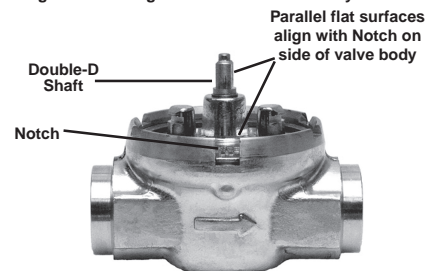

Fig. 4 - Shaft Position
1. *Align the parallel flat surfaces in double-D shaft of valve body with notch in side of body (i.e. 90° to water flow.) See Fig. 4.* This makes actuator attachment easier.
All wiring must conform to local electrical codes and ordinances. Refers to Fig. 4 to 7 for wiring connections.